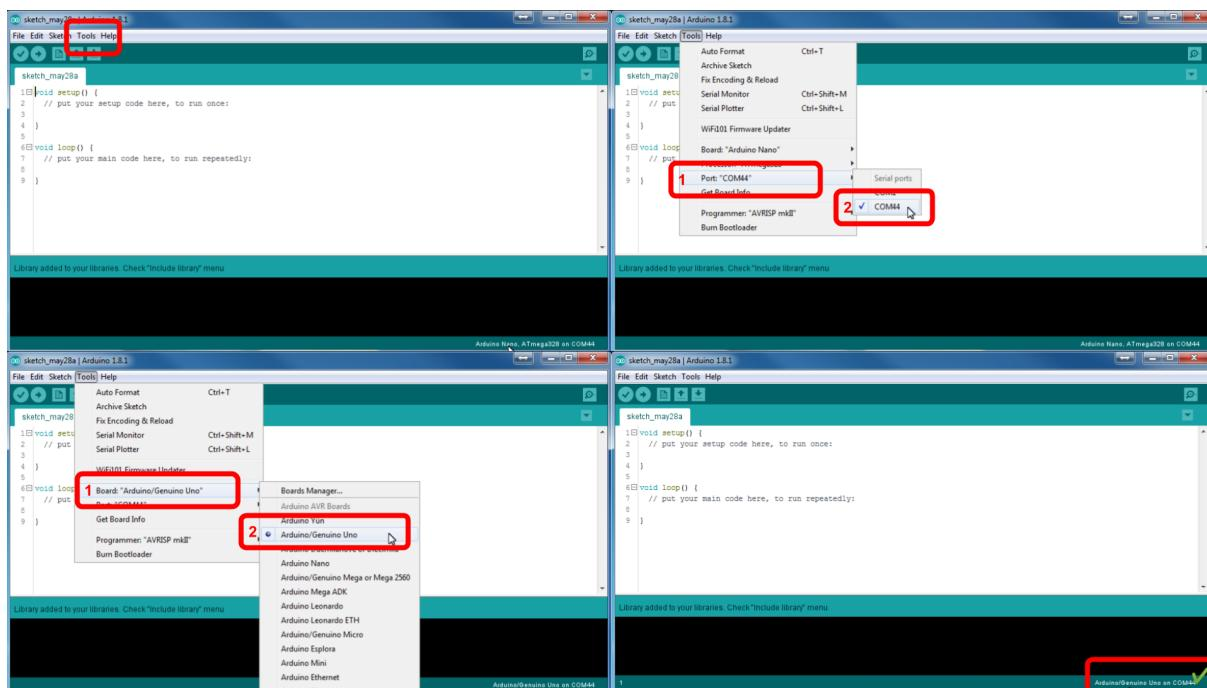

Figure 2.2: Arduino basic setup.
3. Make shure that you will set the proper settings (see fig. 2.2). From the menu choose: